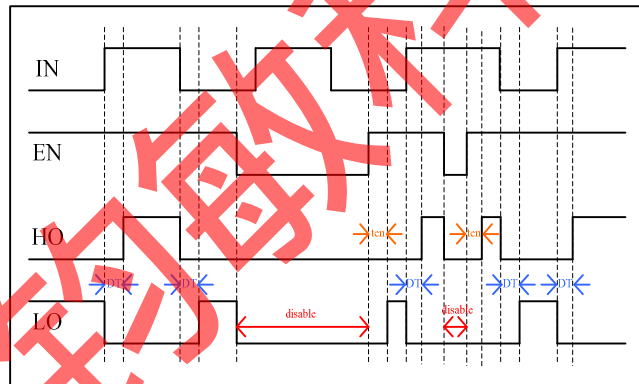

FIG. 4 Logic operation
The PT5620 packaged in MSOP10 provides an enable pin (EN) to allow the device to work in a low current dissipation state. The EN pin is compatible with 3.3/5V logic levels. If EN is set to logic LOW, the device is forced into standby mode and all gate driver outputs are locked into a logic LOW state and only 5 μ A (typ.) is dissipated, as shown in FIG. 4. If EN goes from logic LOW to logic HIGH and incorporates a delay of 4.6 μ s (typ.), the device may be released from standby mode and all outputs are enabled. In order to lower the bias current, a sufficiently large resistor (525k Ω) is tied between ENB and COM.
High side and low side driver outputs are specifically designed for pulse operation and dedicated to driving power devices such as IGBTs and power MOSFETs. High and low side outputs are state triggered by the rising and falling edges of the IN pin, as shown in FIG. 4. After releasing from an under-voltage condition of the VBS supply, a new turn-on signal (edge) is necessary to activate the respective high side output. In contrast, after releasing from an under-voltage condition of the VCC supply, the low side outputs may directly switch to the state determined by their respective inputs without the additional constraints required by the high side driver.